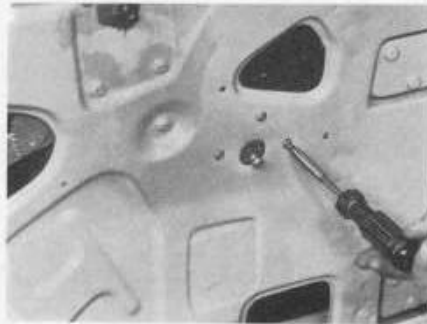

Fig. 13. Removing remote control.
2. Unscrew the three screws (Fig. 13) and take out the inner handle mechanism (remote control).